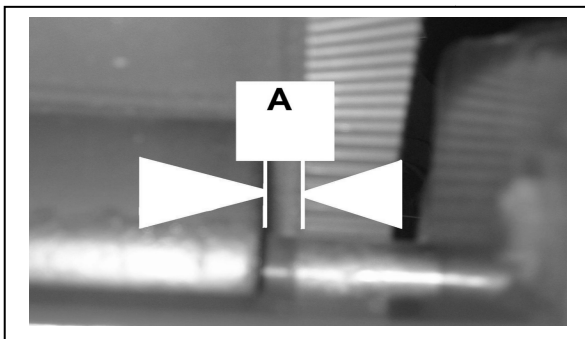

Fig 19
3. Belt alignment is important. Fig 19 (A) shows a clearance from the end of the roller and the under tracking of the belt. This distance needs to be equal on both sides of the roller and both ends of the conveyor.